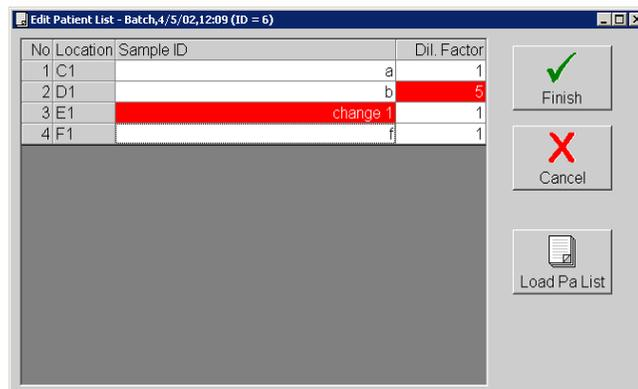

Figure 33 Edit Patient List Dialog Box
While editing the database, the system marks the changes you make in red text. This distinguishes the change from the patient information entered into the original batch. Patient list entries are case-sensitive. Figure 33 shows an edited patient list.
2. Select the desired batch containing the patient list that you want to edit and click **Select**. The **Edit Patient List** dialog box opens similar to Figure 33.